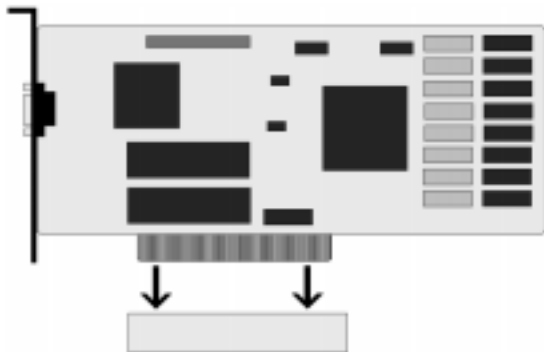

Figure 3-2: Installing a PCI Card
1. Hold the DIMM so that the notched edge is aligned with the notch on the DIMM socket (Figure 3-2).